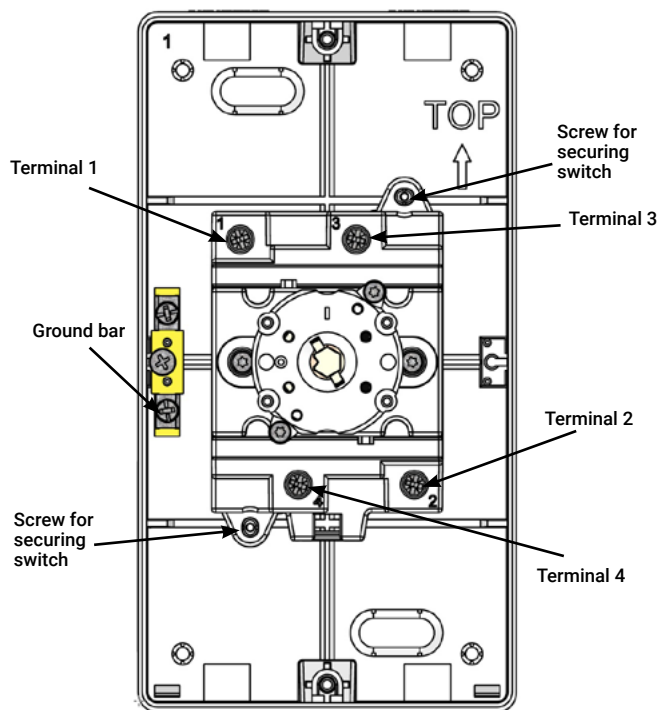

Figure 3: Final RSD wiring
- Secure the switch to the rear plate of the enclosure by torquing the screws as indicated in figure 3. There are 2 screws to be torqued. The screws can be found in the RSD kit.